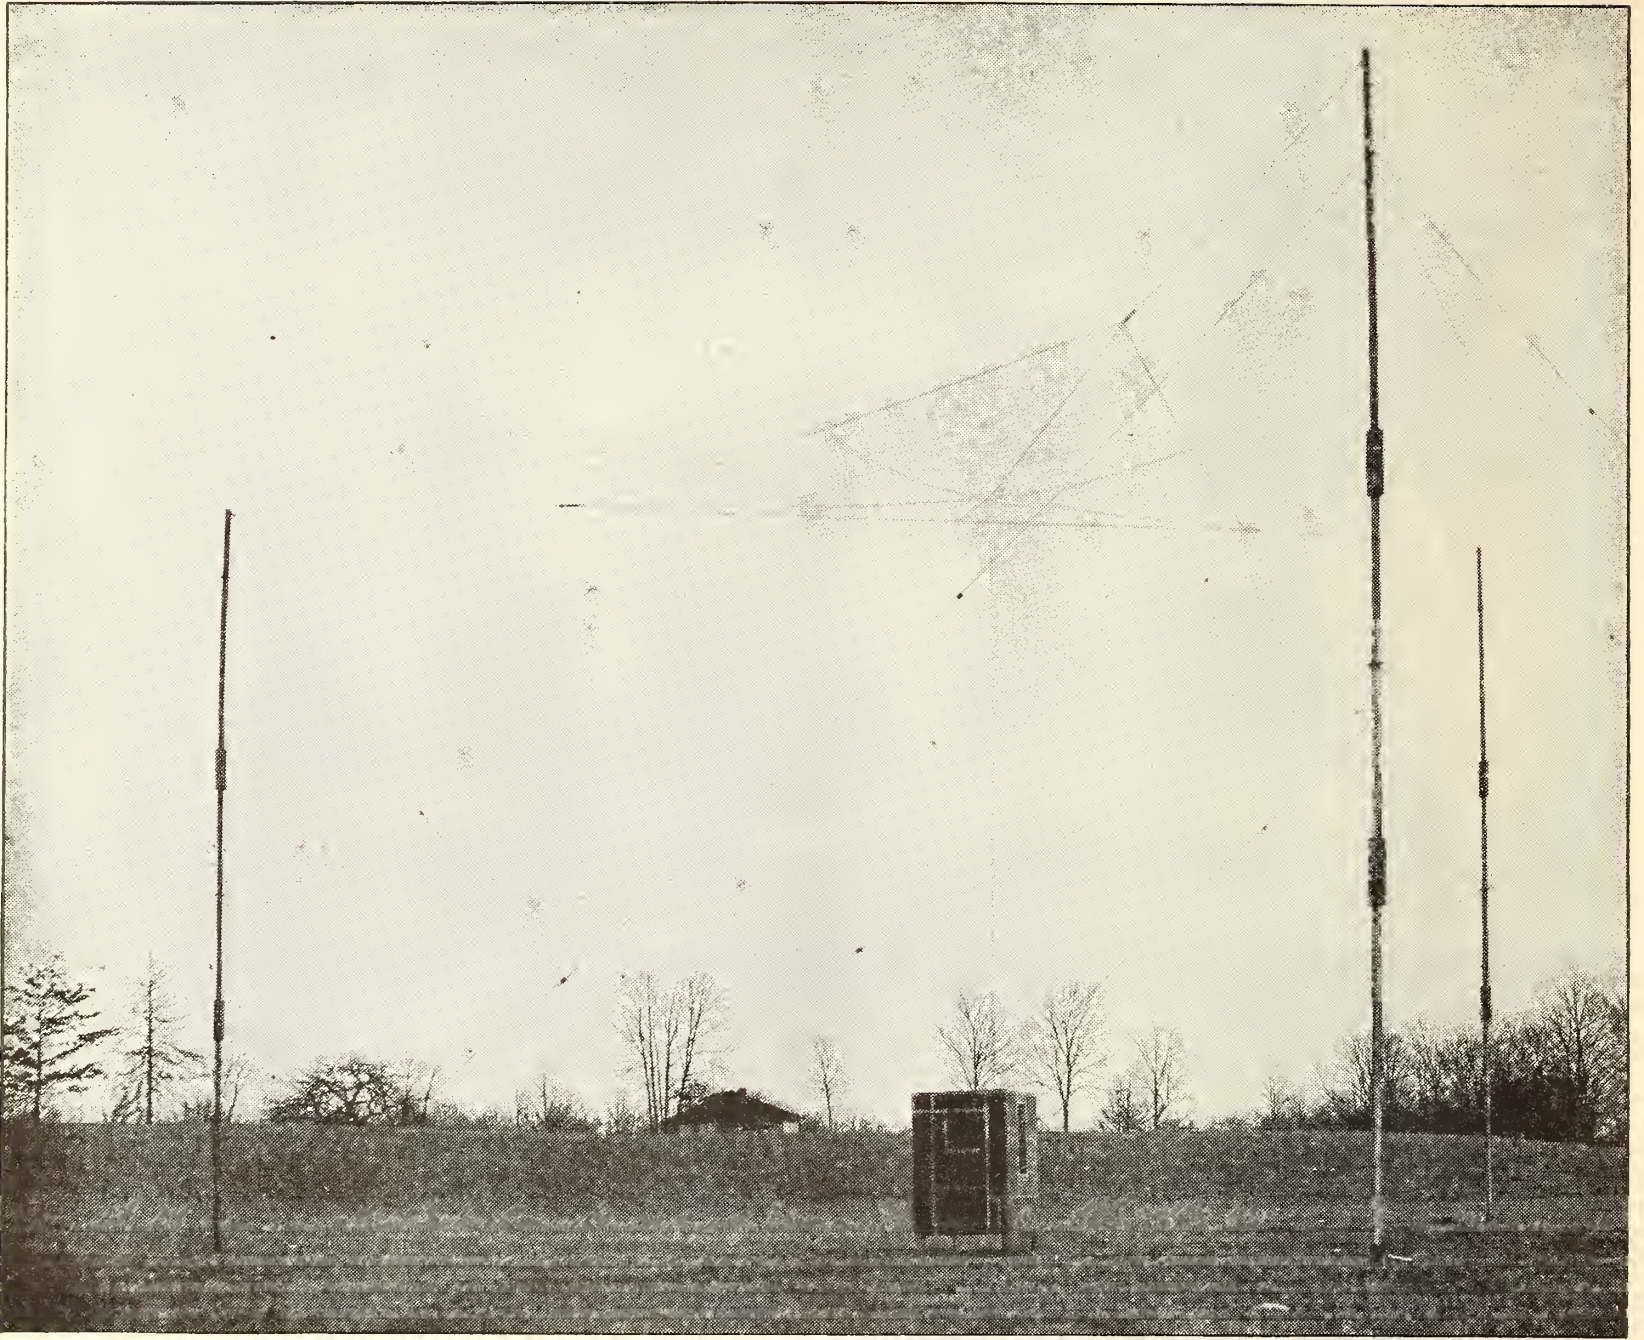

FIG. 2
**M**EASUREMENTS of signal intensity and practical tests of receiving apparatus have hitherto been made at this Laboratory with a 4-wire flat-top aerial, 75 feet long and 40 feet high, and a counterpoise of rather limited extent. A photograph of this aerial is shown in Fig. 1. It is directly over a steel-framed building for most of its length, and runs between a wooden mast and a tree. The lead-in is brought through the roof of the building in a composition insulator. This antenna system is believed to correspond in electrical efficiency to the average radio amateur's antenna and for purposes of comparison it was desirable to construct an aerial system which would approach the ideal design in small antennas as closely as can be done on dry land. A photograph of the completed structure which approximates this ideal is shown in Fig. 2. Before describing the details of this special antenna system let us consider briefly the factors which distinguish a good antenna from one which is electrically bad.
**I**N THE special antenna shown at Fig. 2 the aerial portion consists of an equilateral triangle 50 feet on a side, crossed by three medians, the whole being formed of stranded phosphor bronze wire soldered at all intersections. This is suspended 55 feet above the ground from wire cables carried by three wooden masts. The insulators between the cables and the antenna wires are of glazed porcelain, 12 inches long, the dielectric losses in porcelain being very low compared with all other insulators having a comparable tensile strength. The down-lead consists of a single phosphor bronze cable. There is no conductive connection with the ground; the aerial is "coupled" to the ground through a counterpoise consisting of six wires, 50 feet long, passing